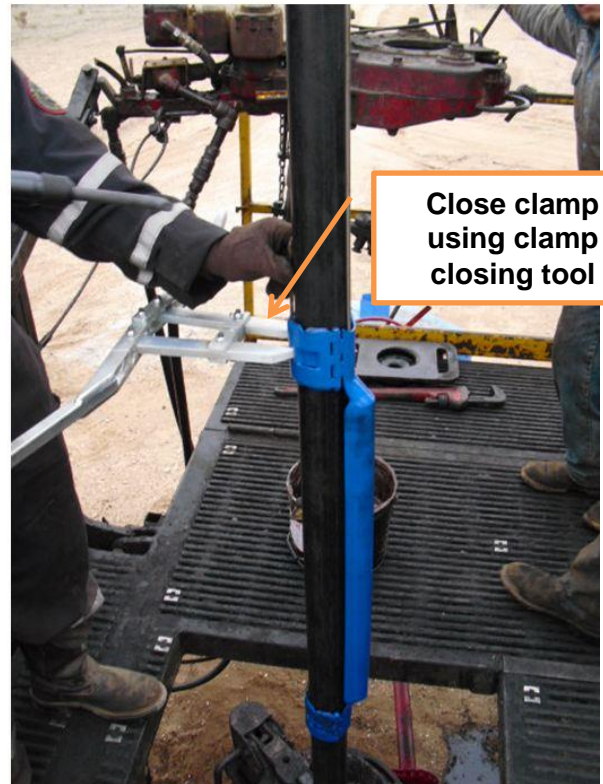

Figure 20. Install clamp on tubing and use a clamp closing tool to close clamp.
2. Place clamp around tubing. Use a clamp closing tool to close clamp. Figure 20.